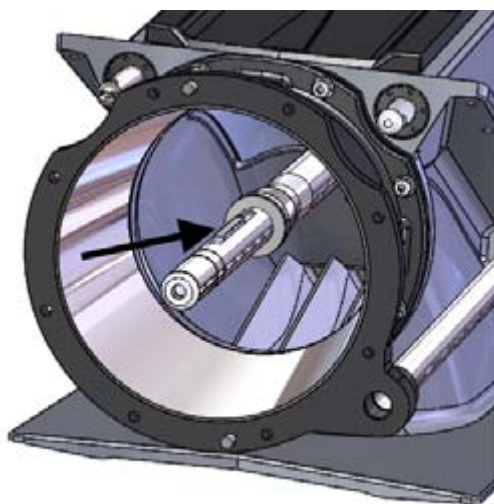

Figure 33. Keyway
6. Once you have found the right adjuster sleeve length, place the key in the shaft keyway (figure 33) and push the impeller on to the shaft against the adjuster sleeve.